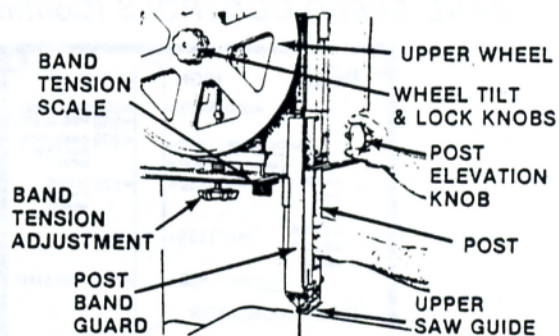

FIG. 13. POST ELEVATION, BAND TENSION & WHEEL TILT CONTROLS.
- (1) For best cutting results, place post and upper saw guide as close as possible to stock. To adjust post height: (a) Grasp post; (b) Loosen post elevation lock knob by turning it **counterclockwise**; (c) Manually raise or lower post to desired height; (d) Tighten lock knob by turning **clockwise**. See Fig. 13.